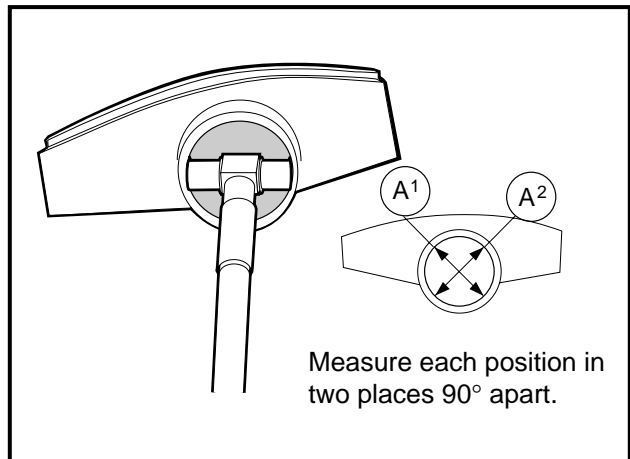

Figure 13-33 Measure Rocker Arm Bearing I.D.
1. Using a dial bore or telescoping gauge, measure the inside diameter of each rocker arm bearing at several points along its length (Figure 13-33, Page 13-18).